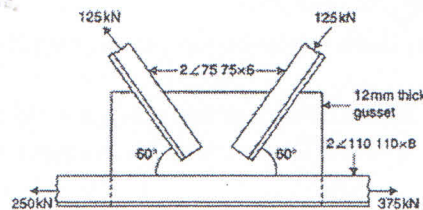

Fig. Q1
- The lower chord joint of a roof truss is with a continuous chord member as shown in Fig Q1. Design and detail the joint using M20 bolts of the product grade C and the property class 4.6. Steel property is  $f_y=250\text{MPa}$  and  $f_u=410\text{MPa}$ .